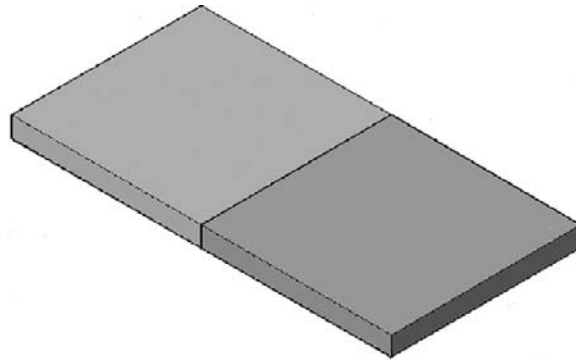

FIGURE 23.8
Step 5. This is similar to the 2D version of the mirror command. Press Enter for the default. The mirrored image appears as shown in Figure 23.8.